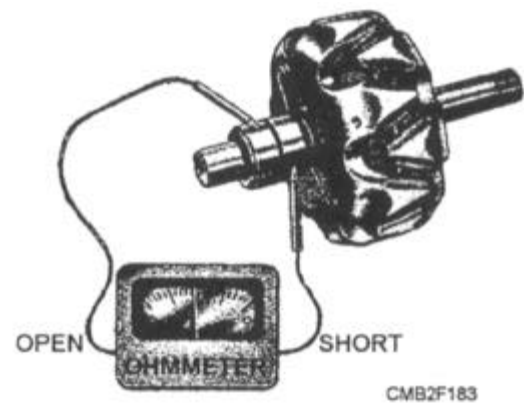

Figure 2-30.—Testing the rotor for opens and shorts.
- To check the rotor for shorts and opens, connect the ohmmeter to both slip rings, as shown in figure 2-30. An ohmmeter reading below the manufacturer's specified resistance value indicates a short. A reading above the specified resistance value indicates an open. If a test lamp does not light when connected to both slip rings, the winding is open.